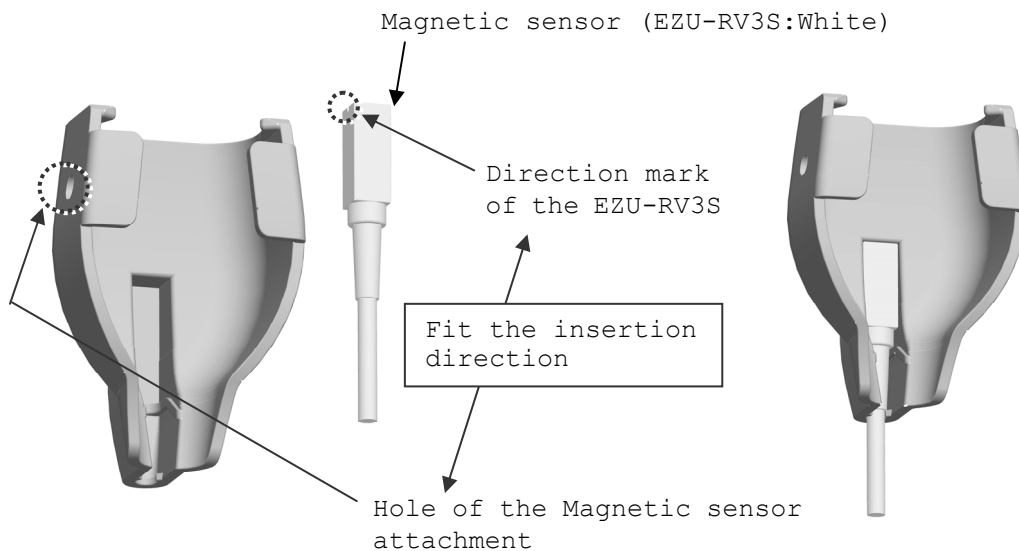

Fig. 9 How to attach the Magnetic sensor
a) Attach the magnetic sensor into the probe with the correct direction as shown in Fig. 9.